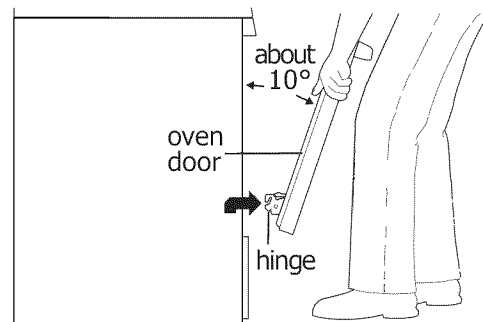
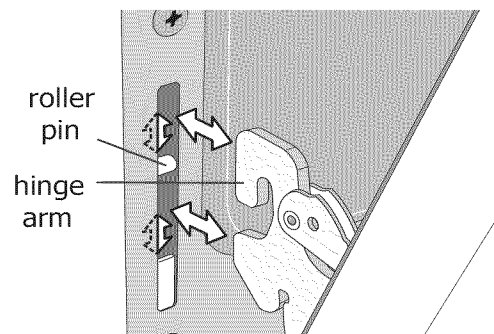

Figure 11: Holding door for removal
Figure 12: Location of hinge arm and roller pin
3. Firmly grasp both sides of oven door along the door sides. Do not use the oven door handle (See Figure 11).
4. Close the door to about 10 degrees from the door frame (Figure 11)
5. Lift the oven door hinge arms over the roller pins located on each side of the oven frame (See Figure 11).
1. Firmly grasp both sides of oven door along the door sides. Do not use the oven door handle (See Figure 11).
2. Holding the oven door at the same angle as the removal position (See Figure 11), seat the hook of the hinge arm over the roller pins located on each side of the oven door frame (See Figure 12). The hook of the hinge arms must be fully seated onto the roller pins.